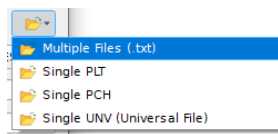

Figure 23.31: Options for Input filename
- Input Filename (Figure 23.31):